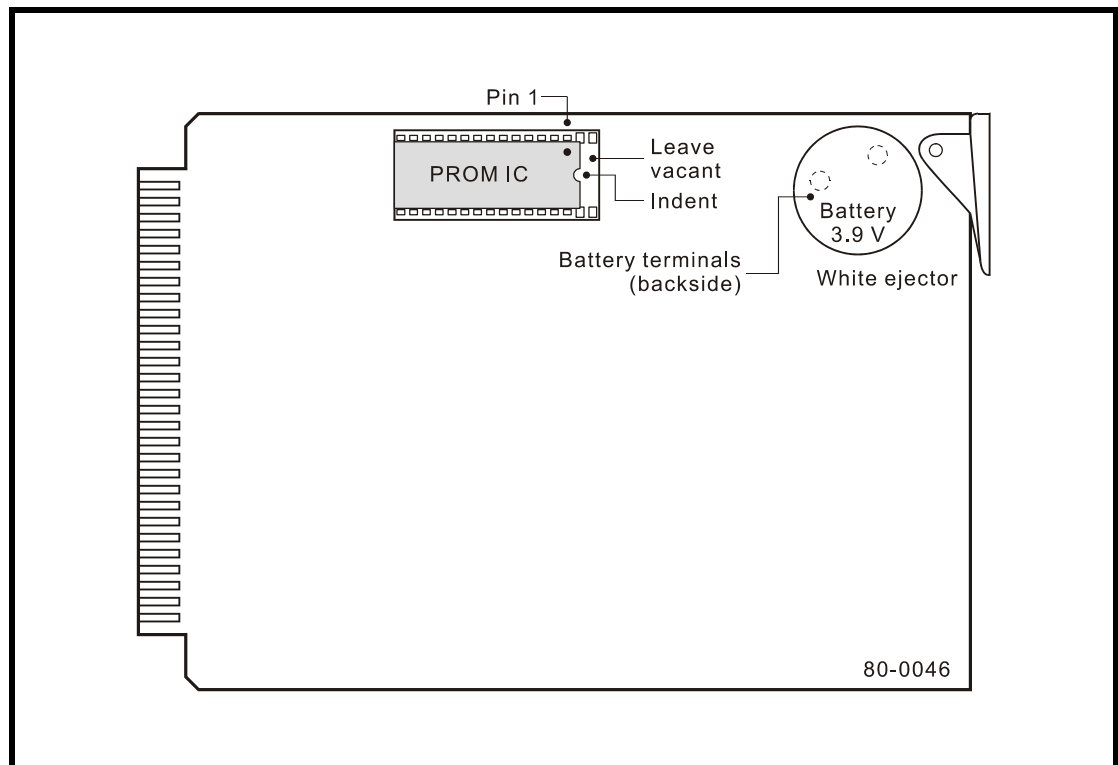

Figure 7 - PROM IC, 80-0046 CPU PCB
3. Using a small, flat-head screwdriver remove the existing PROM IC from its socket. Carefully review Figure 7 on page 59 for the location of the correct IC.
**Tip** MICRO-AIDE recommends that the battery be checked once a year. The battery can be found on the 80-0046 CPU board. The location of the battery is illustrated in Figure 7 on page 59. The battery terminals can be accessed on the backside of the PCB. The battery voltage should measure at least 2.5V. If the battery voltage is less than 2.5V contact MICRO-AIDE customer service for instructions on how to proceed.